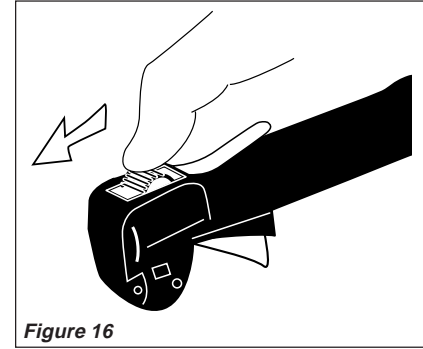

Figure 16
1. Slide the ignition switch to the "I" (START) position. See Figure 16.